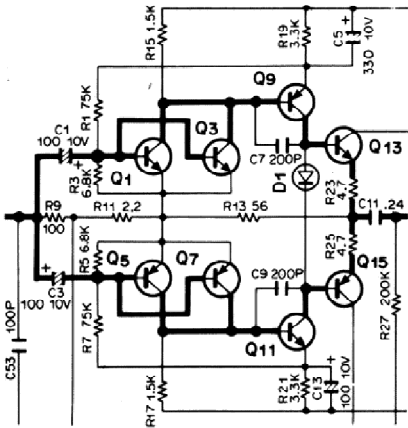

Fig. 1 MC Head Amplifier
3. Adjusting the trimming pot. VR1 (VR2), as shown in Fig 1, for 0V reading of the DC voltmeter.